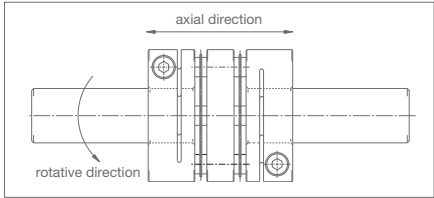

Figure 1
- 2. Slide the Servoflex onto the motor shaft shank. Do not force the assembly or coupling. Now proceed in the same way with the second shaft. Now please ensure that the Servoflex coupling is easy to move both axially and in its direction of rotation, and that it is unloaded (Figure 1).